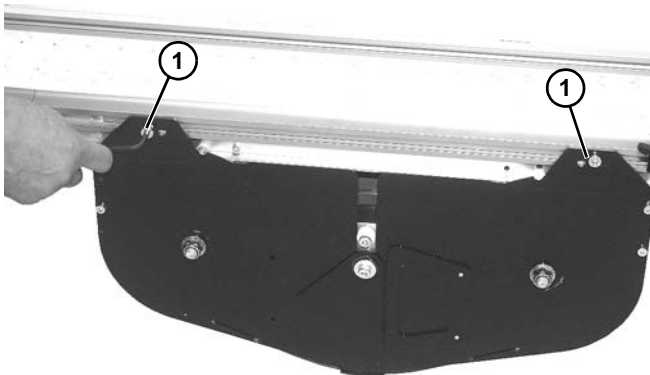

Figure 147
1. Remove two socket head screws (**Figure 147, item 1**) on each side securing assembly to frame.